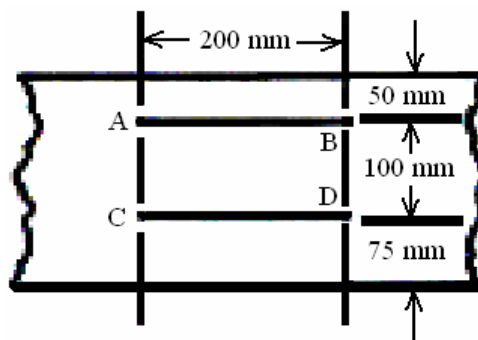

Figure 3
3. In a laboratory test of a beam loaded by end couples, the fibers at layer AB in as shown in Figure 3 are found to increase  $30 \times 10^{-3}$  mm while those at CD decrease  $90 \times 10^{-3}$  mm in the 200 mm gauge length. Using  $E = 100$  GPa, determine the flexural stress in the top and bottom fibers. [15]